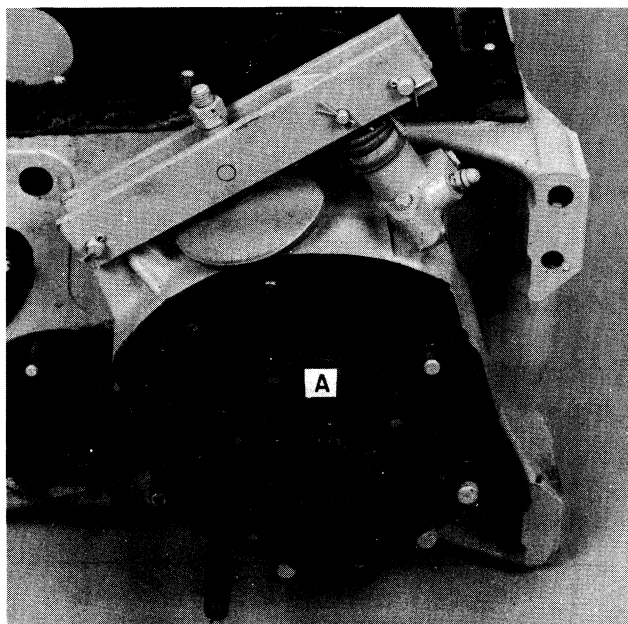

FIGURE 23-12
7. Remove the outer brake disc, A, Figure 23-12.